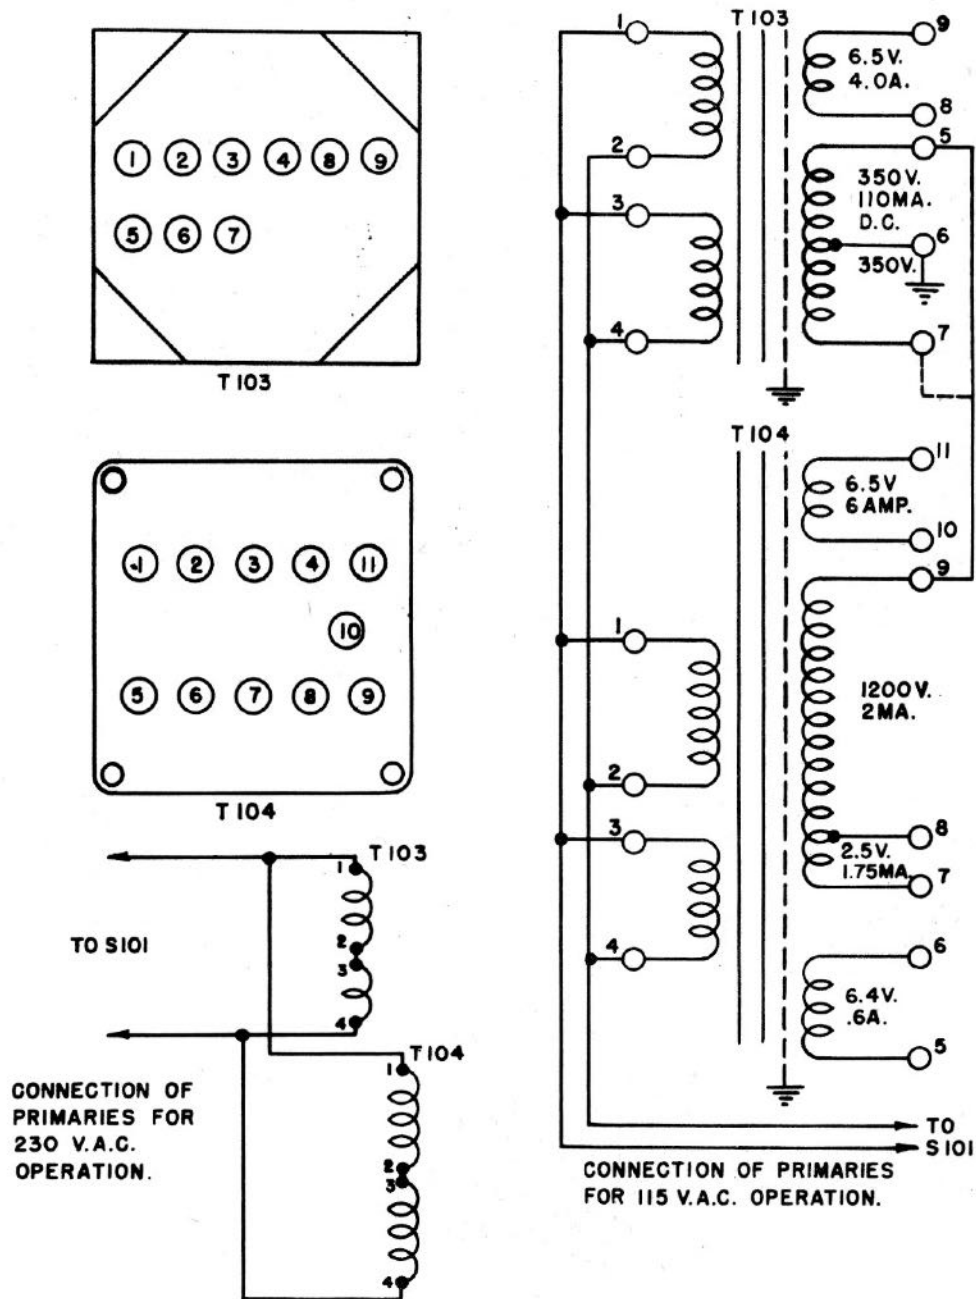

Figure 5-2.- Power Transformer Connections.
It may be found that when power transformers are replaced, the intensity of the trace produced on the screen of the cathode ray tube is lowered. This may be due to improper phasing of transformers, T103 and T104. If this be the case, remove the connection between terminal 5 of T103 and terminal 9 of T104 as shown by the solid line in Figure 5-2. Rewire so that terminal 7 of T103 is tied to terminal 9 of T104 as shown by the dotted line in Figure 5-2.
- (d) Connect and solder terminal two to terminal three. See Fig. 5-2 for power transformer connections.